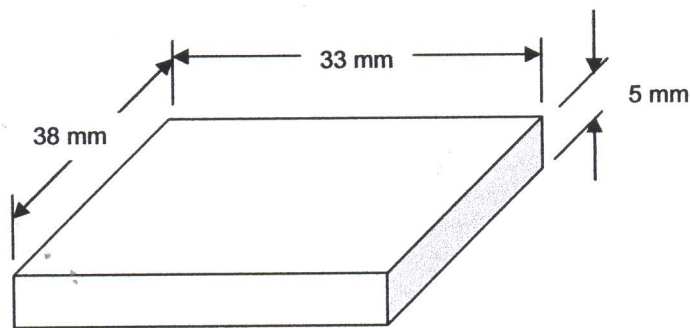

Figure 2.2
- b) Determine the dimension of an optimum cylindrical riser attached to the side of steel plate casting having the dimensions as shown in Fig. 2.2 by assuming that the volume shrinkage on solidification is 3% for steel and that the volume of the riser is three times that dictated by the shrinkage consideration.